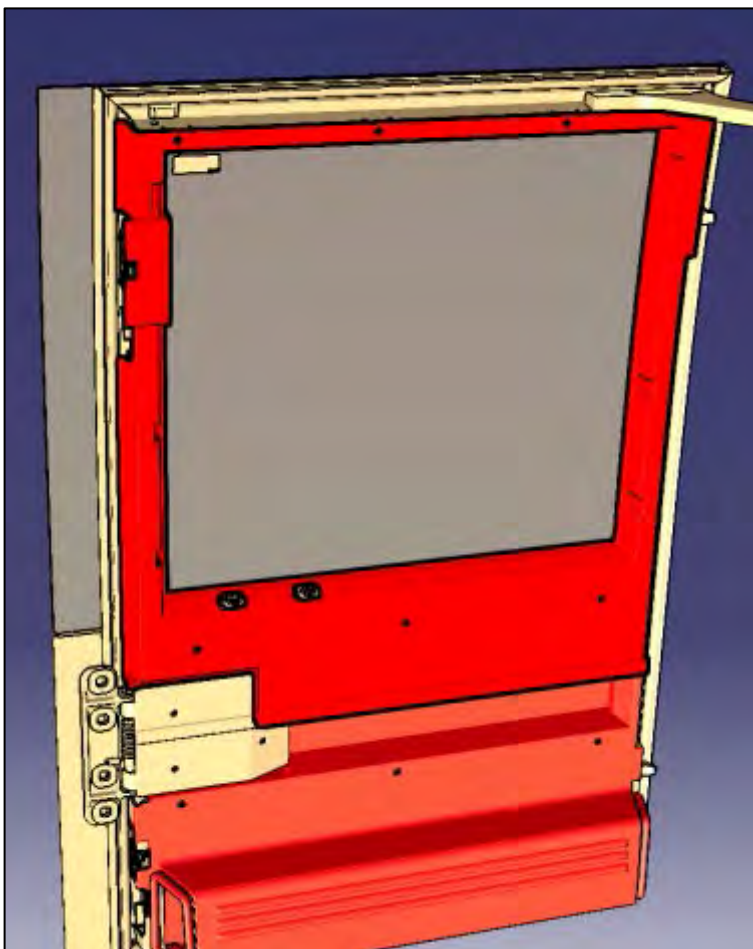

Figure 11
10. Remove door trim. (Figure 11)